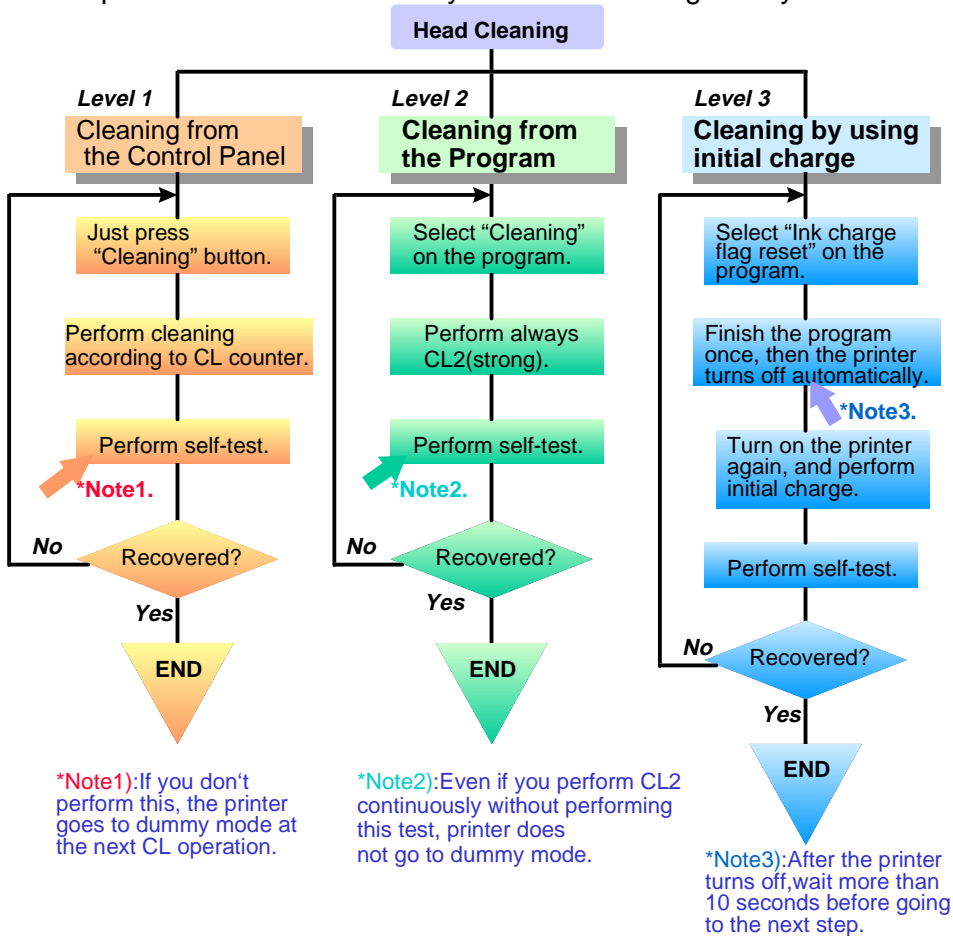

Figure 6-1. Types of Cleaning
■ **Head cleaning using ink absorption does not improve the recovery from dot missing, in proportion to the quantity of absorbing. Therefore, in case of persistent dot missing, it is necessary to recover from dot missing, combining 3 cleaning methods mentioned in the figure6-1.appropriately.**